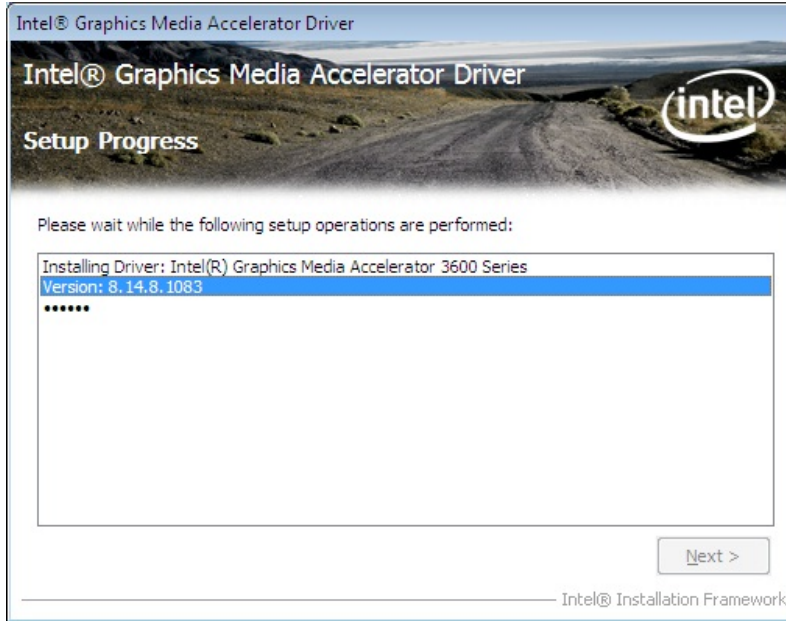

Figure 6-12: VGA Driver Setup Operations
Step 12: Setup Operations are performed as shown in Figure 6-12.